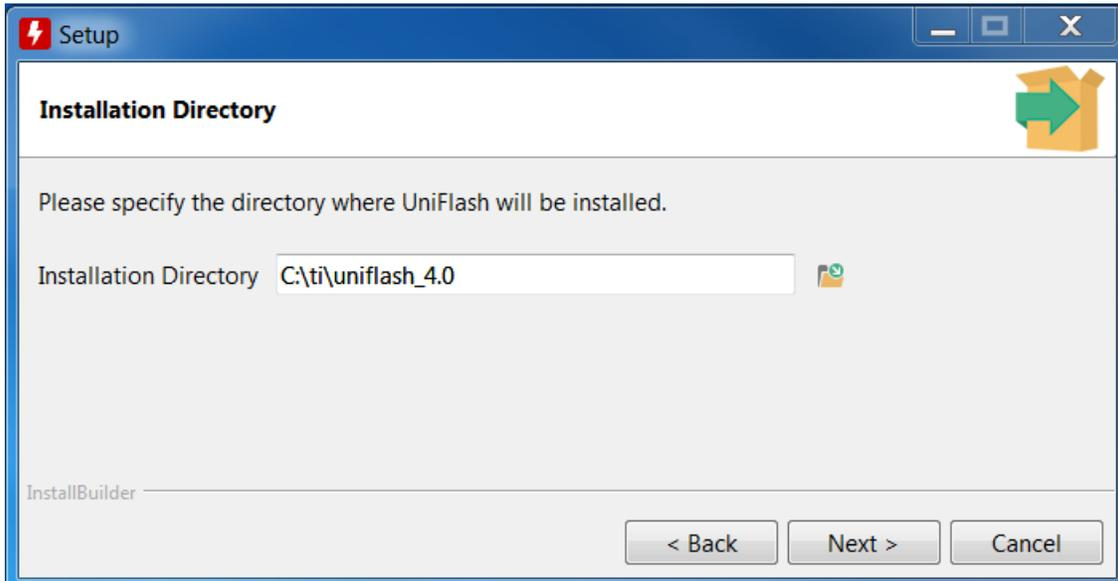

Figure 1-2. Select Install Path
3. Choose the desired path in the Installation Directory field to place the package as shown in Figure 1-2, else the default is chosen.